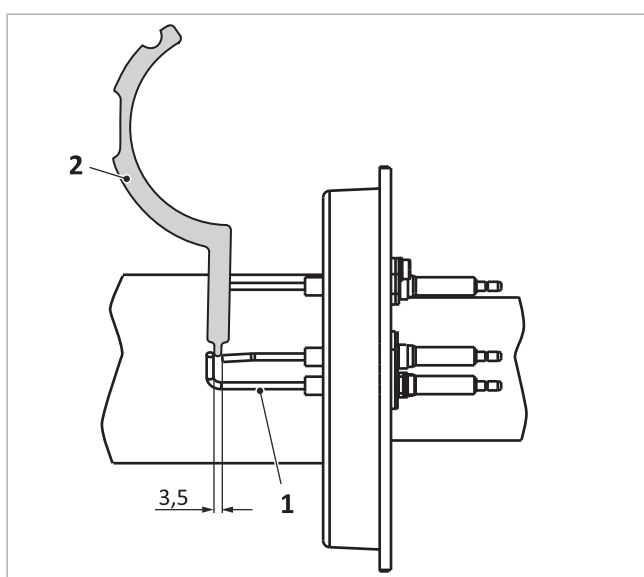

Fig. 143: Clearance from electrode to gauges on the ignition electrode
1. Check the clearance of the ionisation electrode using an electrode gauge → fig. 143 (2) (if necessary, correct it by through careful bending).
- Electrodes below one another → fig. 143 (1): 3.5 mm